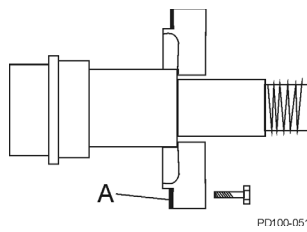

Figure 72 - Remove Sealant from Retainer
- Remove the silicone sealant (Figure 72, item A) from the bearing retainer and gear case.